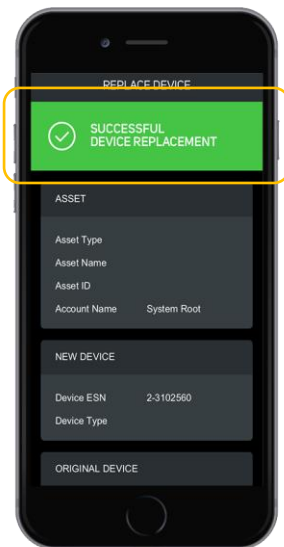

FIG. 3
5) The next screen will show a “Successful Device Replacement” confirmation message (FIG. 3).